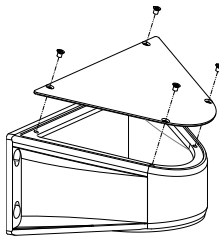

Fig. 19: Removing the adapter cover
- 4 Tighten the adapter cover with four M3 screws, see Fig. 19.